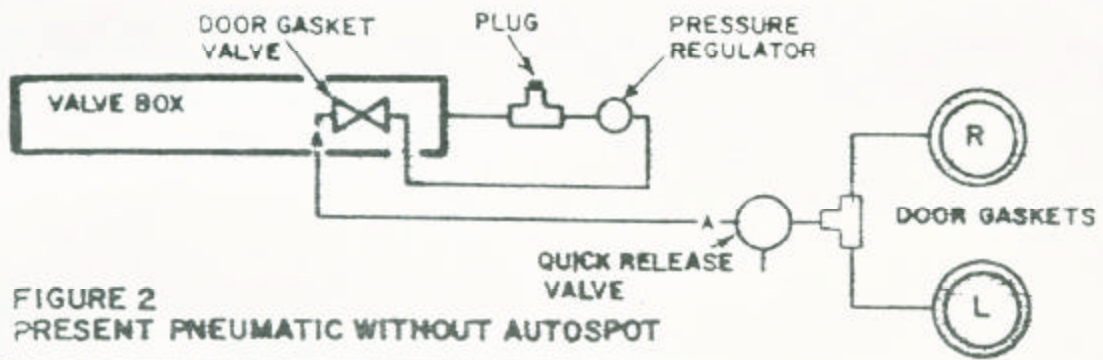

FIGURE 2
- a. Remove plug from "tee" attached to valve box (See Fig. 2).